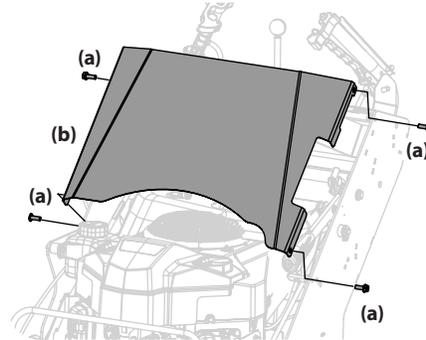

Figure 4-20
1. Remove the four screws (a) that secure the front panel (b) and remove the front panel (b). See Figure 4-20.